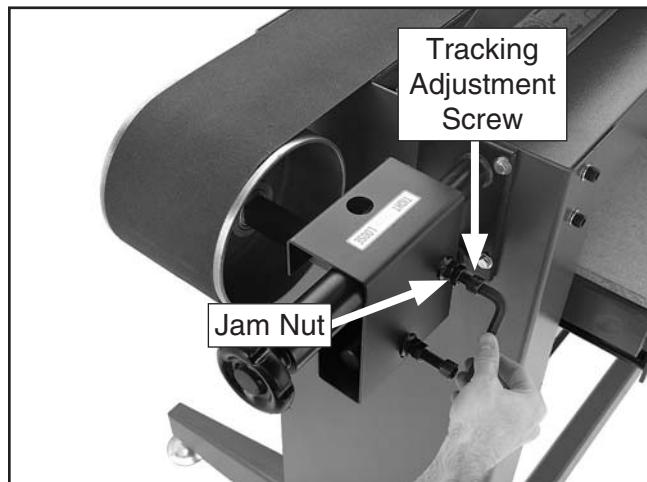

Figure 49. Belt tracking adjustment.
2. Loosen the jam nut on the belt tracking adjustment screw (Figure 49).